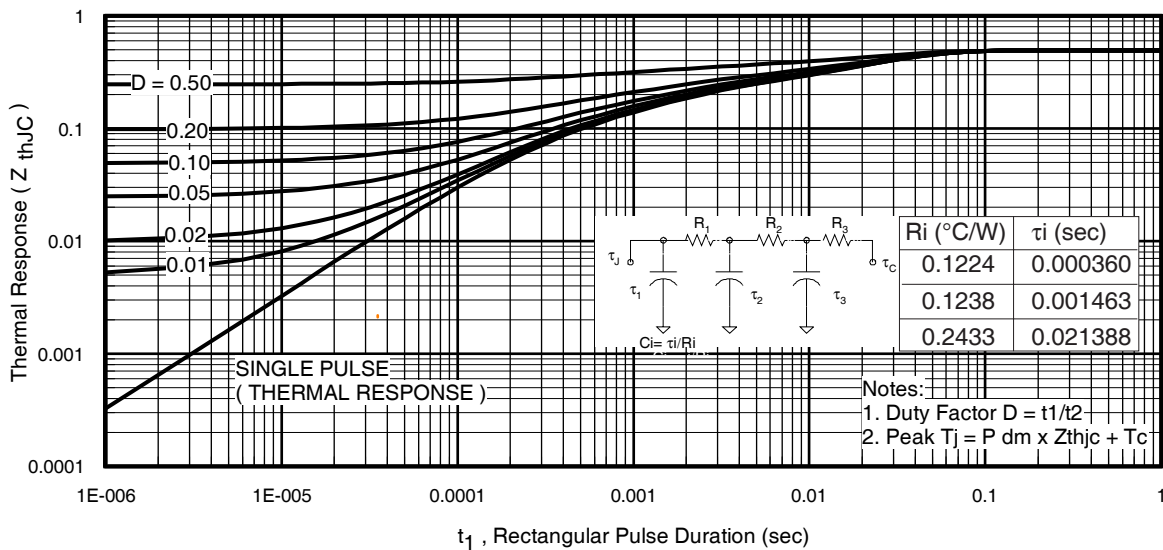

Fig 11. Maximum Effective Transient Thermal Impedance, Junction-to-Case
- ① Repetitive rating; pulse width limited by max. junction temperature. (See fig. 11).
- ② Limited by T_{Jmax} , starting $T_J = 25^\circ\text{C}$, $L = 0.13\text{mH}$, $R_G = 25\Omega$, $I_{AS} = 90A$, $V_{GS} = 10V$. Part not recommended for use above this value.
- ③ $I_{SD} \leq 90A$, $di/dt \leq 340A/\mu s$, $V_{DD} \leq V_{(BR)DSS}$, $T_J \leq 175^\circ\text{C}$.
- ④ Pulse width $\leq 1.0\text{ms}$; duty cycle $\leq 2\%$.
- ⑤ $C_{oss\ eff.}$ is a fixed capacitance that gives the same charging time as C_{oss} while V_{DS} is rising from 0 to 80% V_{DSS} .
$Z_{thJC}(D, t_{av})$ = Transient thermal resistance, see figure 11)